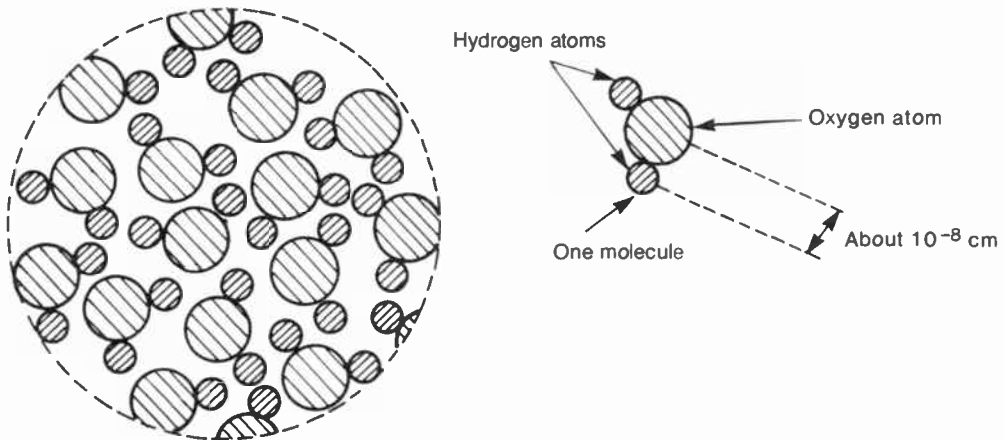

Fig. M10 Molecules of Water
**MOLECULE** Just over 100 different elements exist, each typified by its own particular atom, such as sulphur, nickel, carbon, silicon, zinc. When any two or more atoms combine chemically, another material substance is formed, usually bearing no resemblance whatever to its constituents. As an example, oxygen and hydrogen are elements and gases but when their atoms combine chemically, *molecules* of water are produced (the chemist’s  $H_2O$  – 2 hydrogen atoms combined with one of oxygen per molecule). Figure M10 shows how, in a rather inadequate way, we might picture the molecules of water. A molecule is therefore the smallest particle of a substance which displays the characteristics of that substance. If the molecule is split up, only the atoms of the